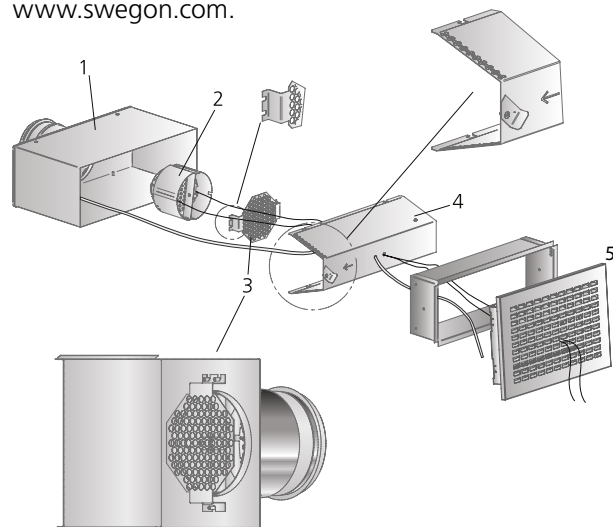

Figure 1. Installation.
The ALV commissioning box is well-suited for installation in 1200 mm plasterboard walls (600 mm centre to centre) and 900 mm plasterboard walls (450 mm centre to centre). See figure 1.
- The assembly and dismantling of the component parts are shown in Figure 1.
The desired commissioning pressure be computed by applying the rated coefficient of performance of the air diffuser. Set the damper to the correct blade position, tie a commissioning knot in the damper cords to indicate the damper position. Then lock the cords against the locking screw in the air distribution baffle. See Figure 1. The rated coefficient of performance (K-factor) is specified on the identification label of the product and in the relevant commissioning instructions at www.swegon.com.
Clean the air diffuser when necessary using lukewarm water with added detergent. The duct system can be accessed after opening the diffuser face by pulling it down from the upper edge, withdrawing the air distribution baffle and lowering the fully open damper. See Figure 1.